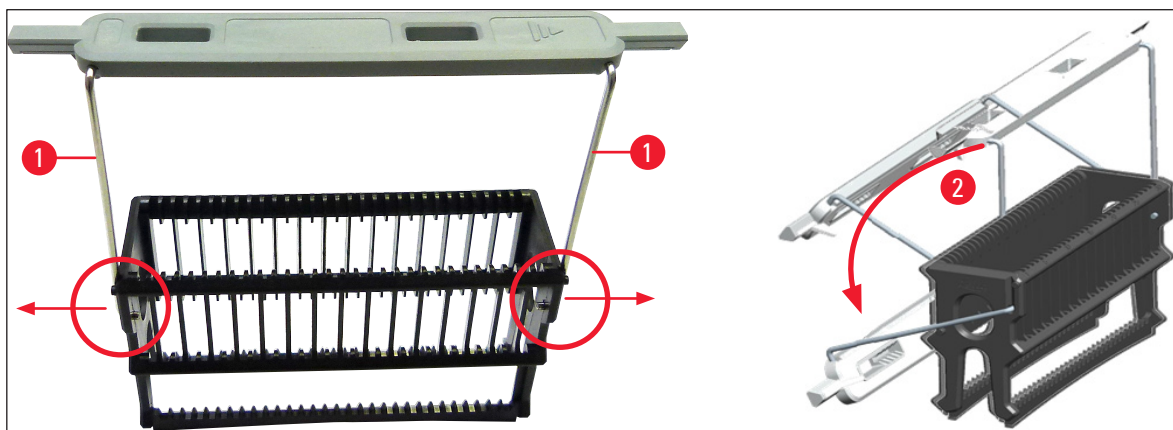

Fig. 70
- Be sure that the handle is correctly positioned in the upper position, centered above the rack (→ Fig. 70)